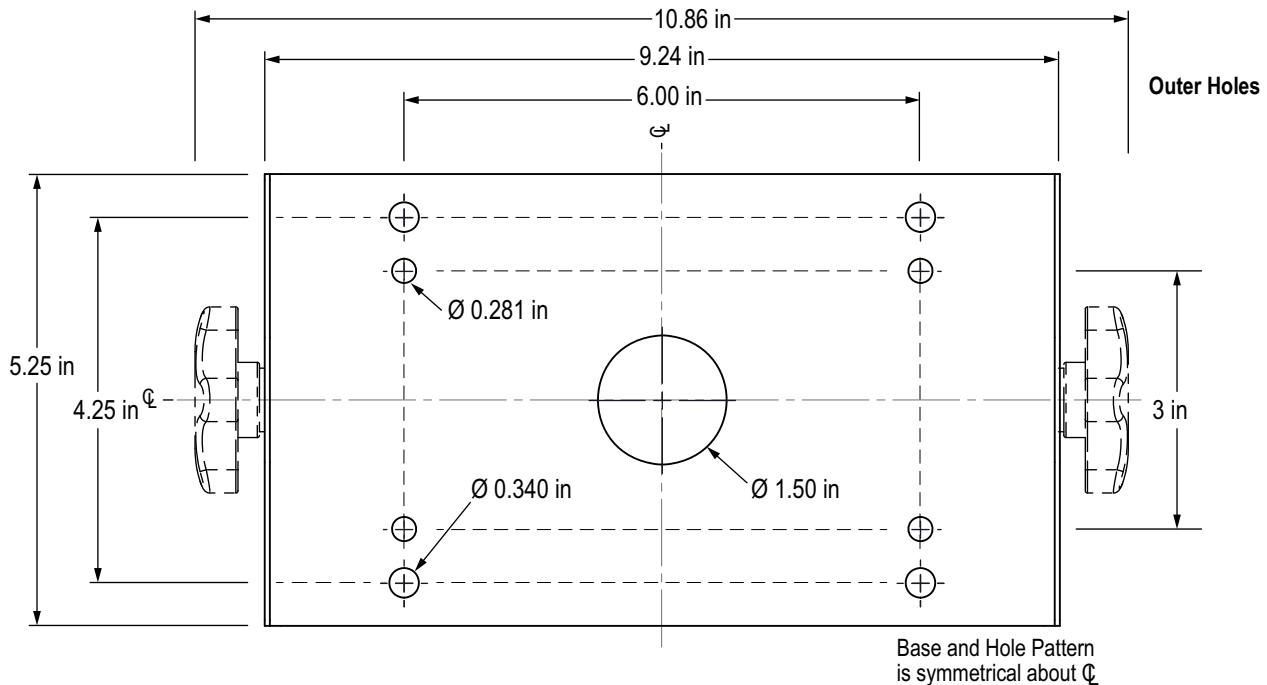

Figure 2-4. Universal Tilt Stand Hole Pattern Dimensions
1. Using the tilt stand as a template, mark the screw locations. See Figure 2-4 on page 24 for dimensions.